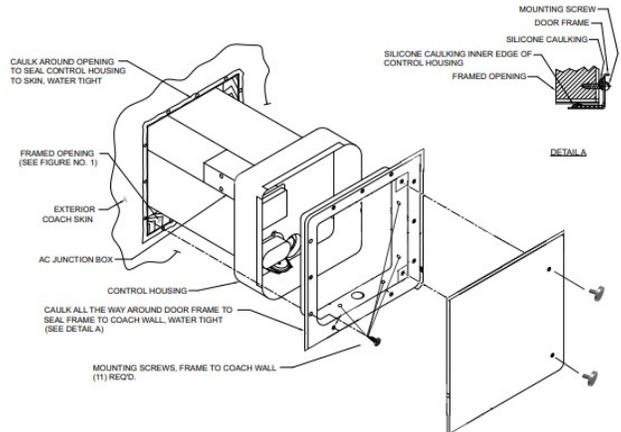
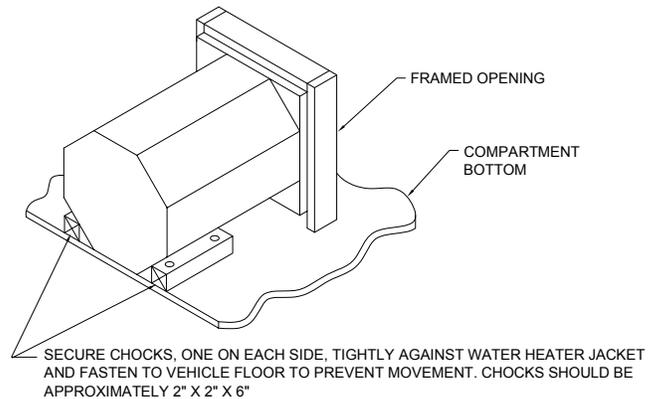

Figure 2
Figure 3
(See Figure 2 for illustration)
- In some limited accessibility applications, the chocks as illustrated in Figure 3 must be installed prior to setting water heater into position. Install chocks, one on each side of water heater, as illustrated in Figure 3.
- Fit the door frame into control housing (over the caulking already applied) and pull frame tight to control housing using the three (3) No. 8-15 x 3 1/2" screws provided.
- Push water heater into framed opening until back side of door frame (now attached to control housing) is against the side of the coach and firmly attach with screws around the perimeter of the frame. **NOTE:** The two (2) holes in bottom of frame identified as "A" in Figure 2 are also used to mount door to the frame.
- If already installed, confirm chocks are supporting the water heater correctly. If not already completed, install chocks, one on each side of water heater as illustrated in Figure 3.
- Refer to Figure 2 for location of A.C. junction box.